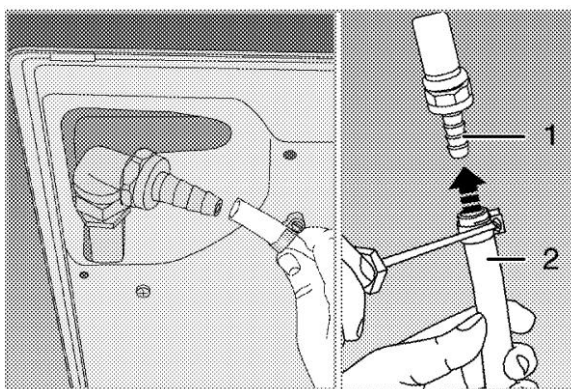

Figure 4
- ❖ Connect the clamp to the hose. Then connect the hose to oven. Finally, tighten the clamp with a screwdriver. **(See Figure 4)**